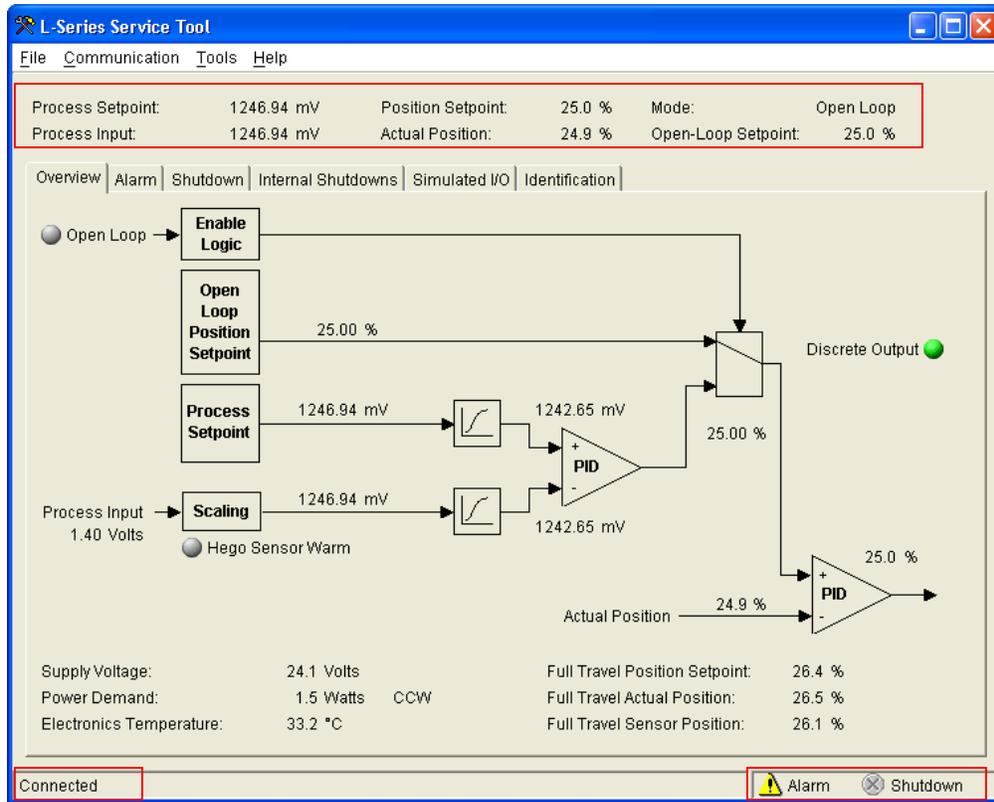

Figure 20. L-Series Service Tool Overview Screen
**Figure 20** shows the default L-Series Service Tool screen. This screen will be the main dashboard for the calibration of the L-Series Air-Fuel Ratio controller. It shows: